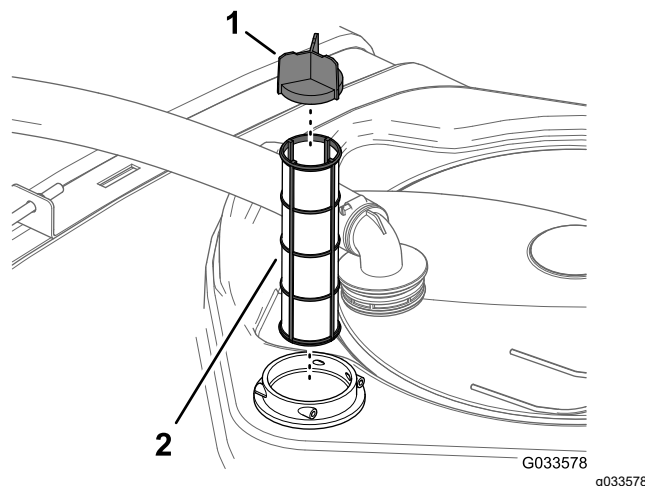

Figure 56
4. Pull the suction strainer out of the filter housing in the tank (Figure 56).